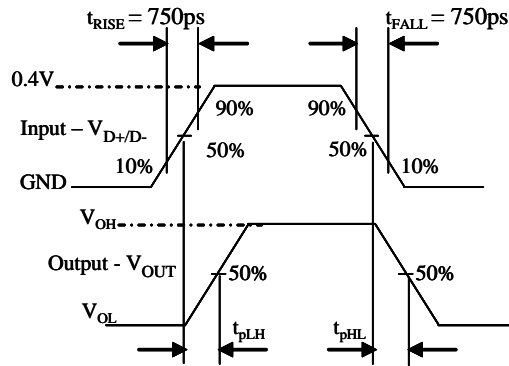

Figure 16. USB Switch Propagation Delay Waveforms
| $t_{\text{PDUSB}}$     | USB Switch Propagation Delay (8)        | $V_{\text{AUDIO}}=3.0$$V_{\text{BUS}}=4.25\text{V}$ | $R_L=50\Omega$ , $C_L=0\text{pF}$ ,Figure 16  |  | 0.25 |      | ns            |